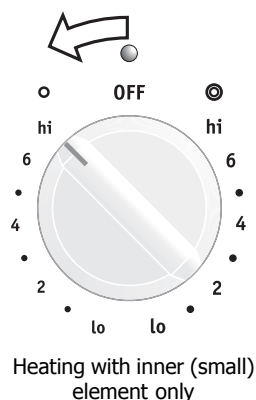

Fig. 1
2. Push in and turn the surface control knob clockwise (See Fig. 2) to begin heating both the inner and outer portions of the dual element. If only the inner heating portion is needed for smaller cookware, push in and turn the knob counter-clockwise (See Fig. 1).